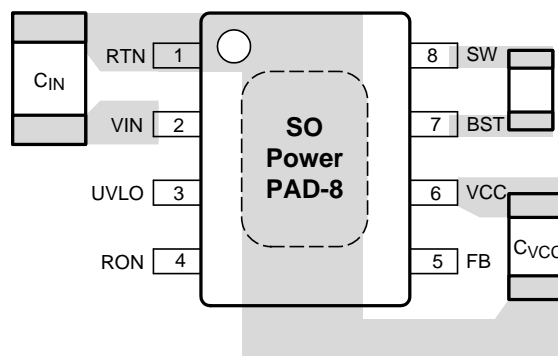

Figure 24. Placement of Bypass Capacitors
- C_{IN} : The loop consisting of input capacitor (C_{IN}), V_{IN} pin, and RTN pin carries switching currents. Therefore, the input capacitor should be placed close to the IC, directly across V_{IN} and RTN pins and the connections to these two pins should be direct to minimize the loop area. In general it is not possible to accommodate all of input capacitance near the IC. A good practice is to use a 0.1- μ F or 0.47- μ F capacitor directly across the V_{IN} and RTN pins close to the IC, and the remaining bulk capacitor as close as possible (see Figure 24).
- C_{VCC} and C_{BST} : The V_{CC} and bootstrap (BST) bypass capacitors supply switching currents to the high and low side gate drivers. These two capacitors should also be placed as close to the IC as possible, and the connecting trace length and loop area should be minimized (see Figure 24).